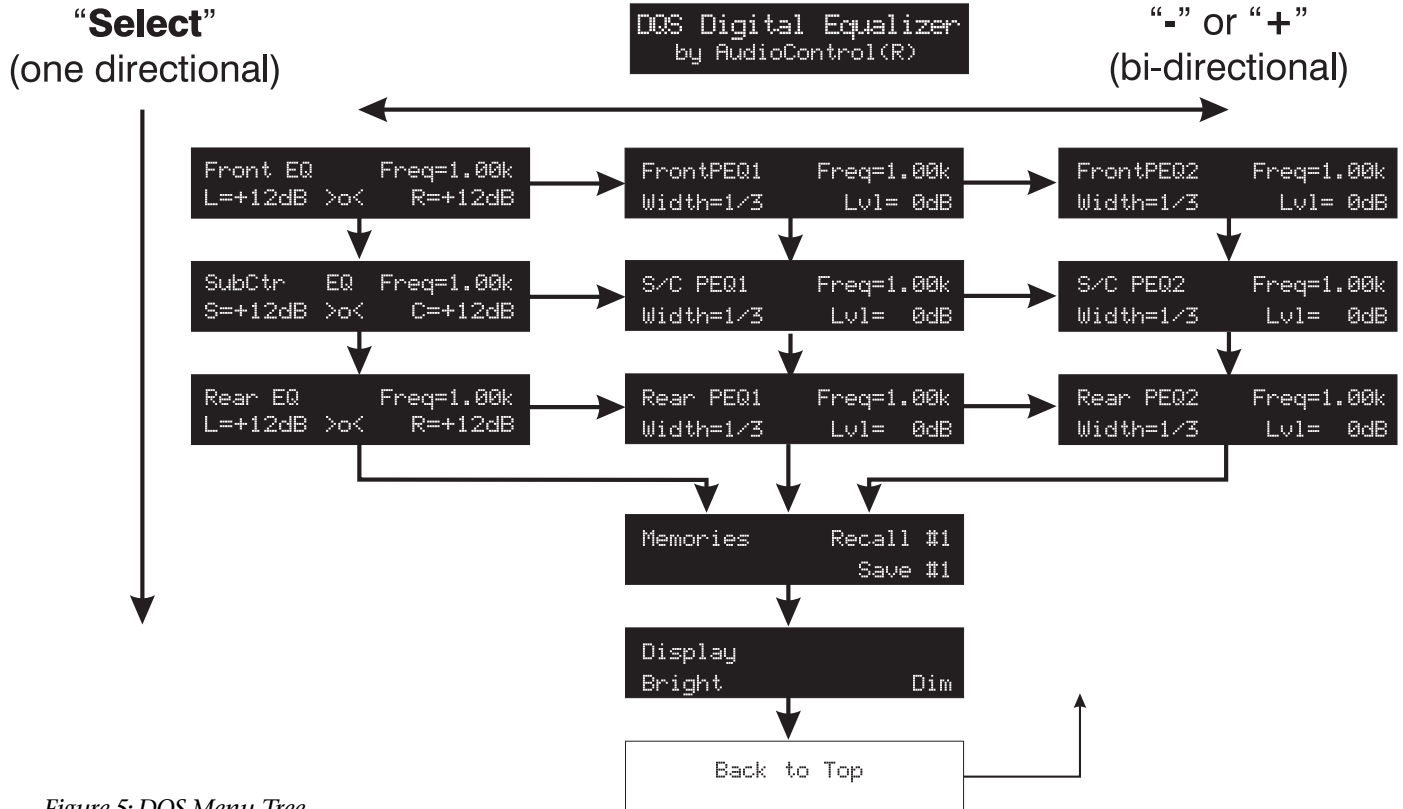

Figure 5: DQS Menu Tree
**Menu Tree:** Once your DQS has settled on one of these menu screens, you will want to spend a few minutes familiarizing yourself with the various modes. Although the DQS has one main screen, there are eleven sub menu screens that allow you to access and program all of the various functions of your DQS. Figure 5 shows you how the Menu Tree of your DQS flows.